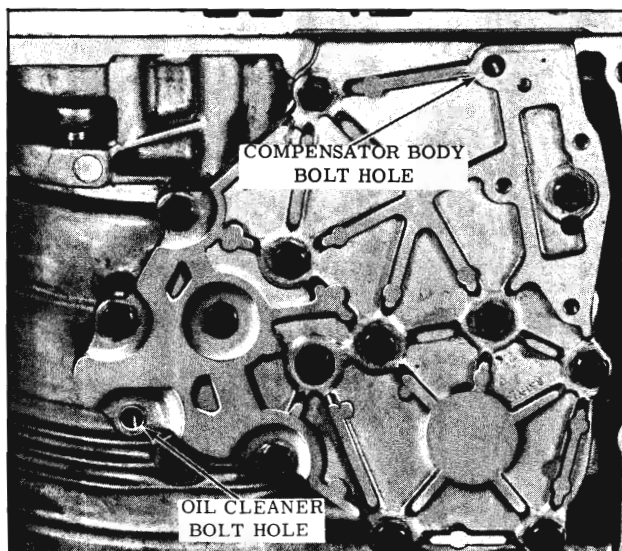

Fig. 3-22 Accumulator and Servo Cover
10. Remove the servo and accumulator cover and gasket by removing the 12 remaining cover bolts. (Fig. 3-22) Cover is under spring tension.